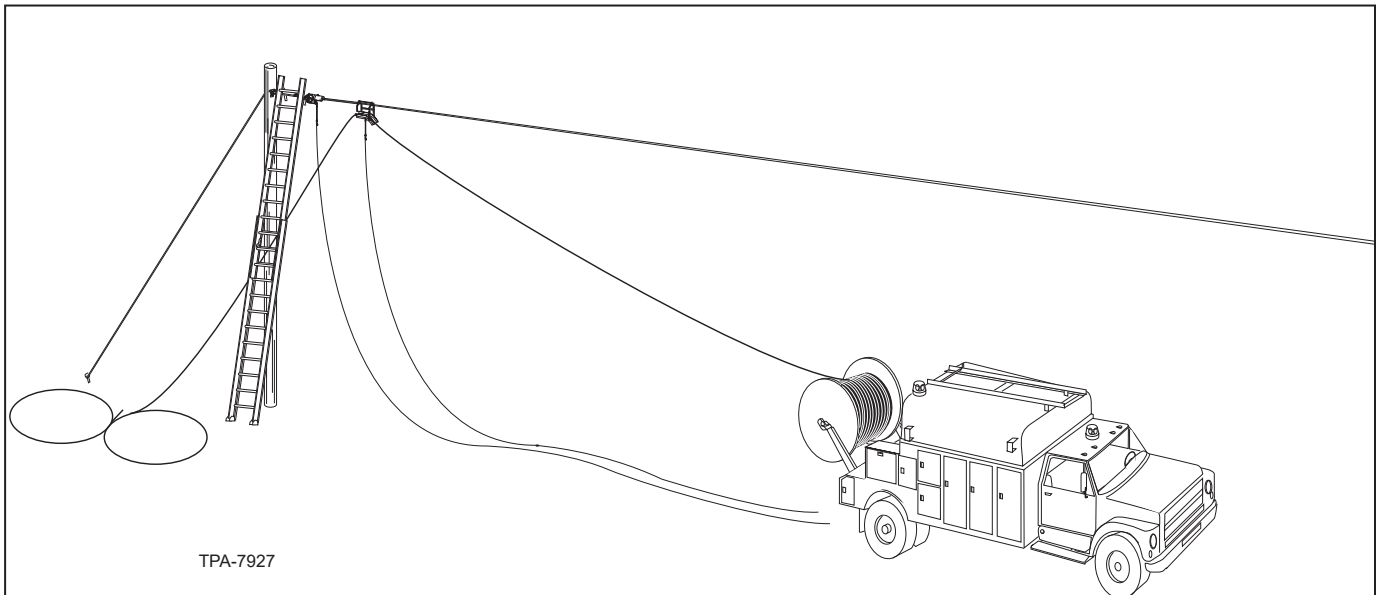

Figure 21 - Raising cable to a strand with a ladder and lines
**Note:** If you are not using a lift, pass a line through the cable chute guide and pull the cable up to the guide (Figure 21). Do not place stress on the cable and make sure that the cable's minimum bend radius is not exceeded.